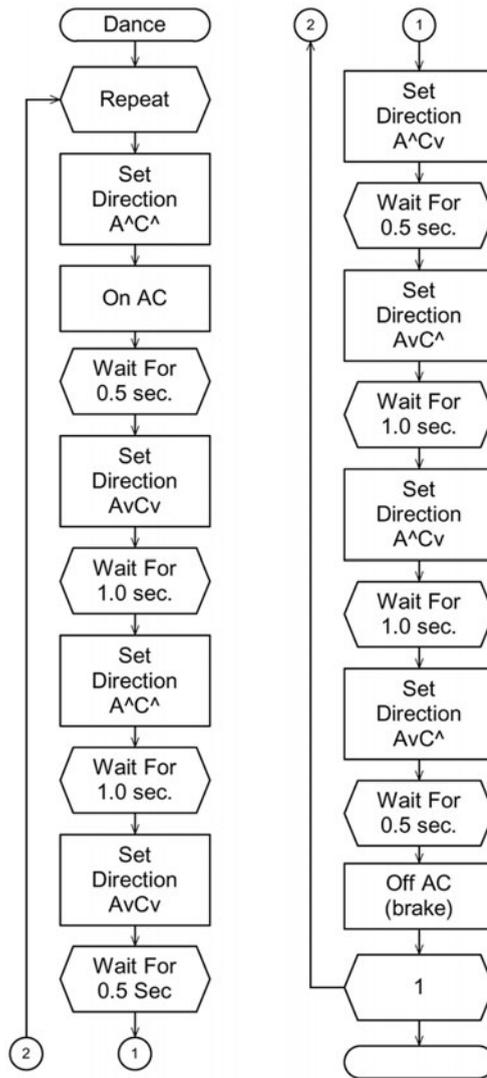

Fig. 13-4. Dance program.
**Try This:** The simplest program is a sequence of timed actions. *Do this for a second, then do that, then do this other*, and so on. One example of this is the *Dance* program illustrated in Fig. 13-4. This program is controlling two motors named A and C. They can be set to move forward “^” or backward “v” at different power levels. They could be in any robot with *differential drive* steering, where the speed and direction of the drive motors are used to steer the robot. The program is not complex, though it does create a fancy little dance routine. It’s long, so long that it had to be broken in half to fit it on the page, but it’s simple.